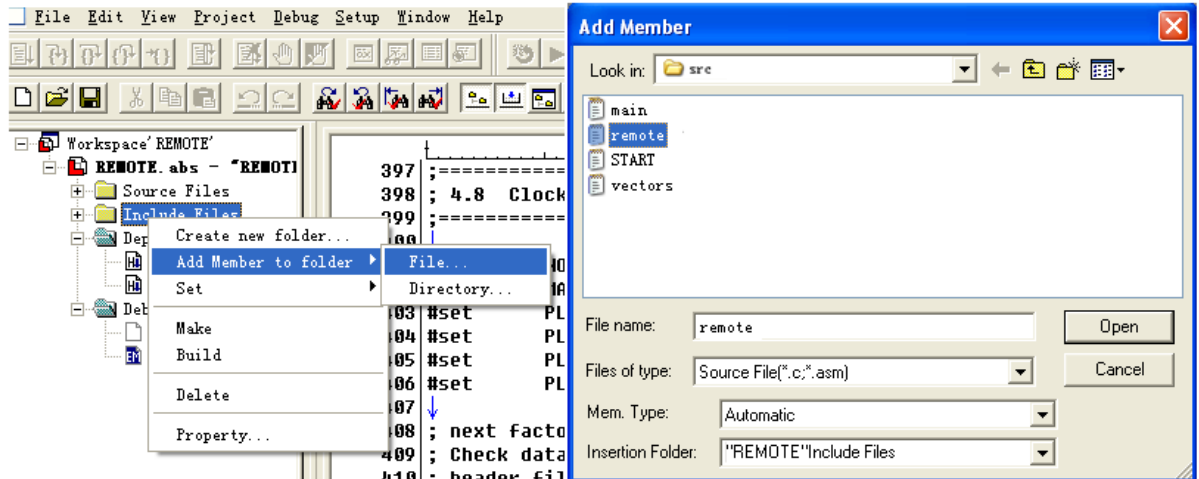

Figure 7-4: Library Use Second Step
- Second step is to add function to project, Figure 7-4 describes this step